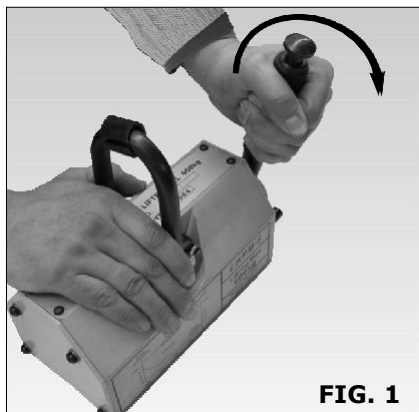

FIG. 1
- 1) Move the lever from the - (DEMAG) to the + (MAG) position (Fig. 1).
- 1) Grasp the lever, press in the unlock button with your thumb in the direction of the arrow and hold (Fig. 1).